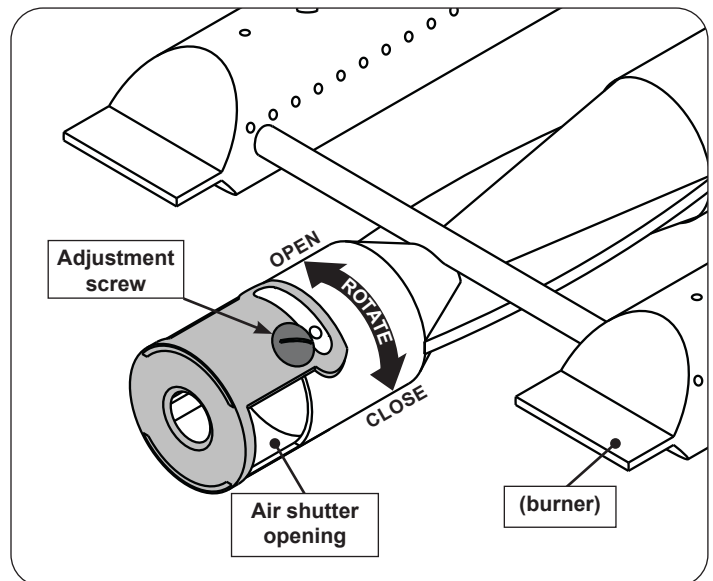

Fig. 48-2 Main burner air shutter adjustment detail
1. To adjust the air shutter, loosen the adjustment screw with a screwdriver. Then the shutter to open or close it. See Fig. 48-2 for details.